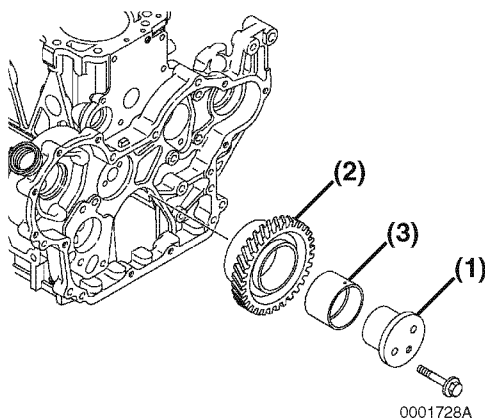

Figure 6-148
3. Lubricate the idler gear (Figure 6-148, (2)), bushing (Figure 6-148, (3)) and idler gear shaft (Figure 6-148, (1)) with clean engine oil.